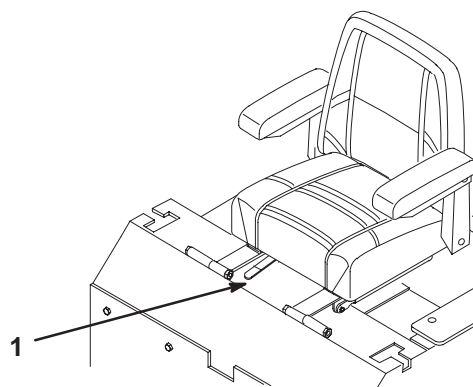

Figure 26
1. To adjust, move the lever sideways to unlock seat (Fig. 26).